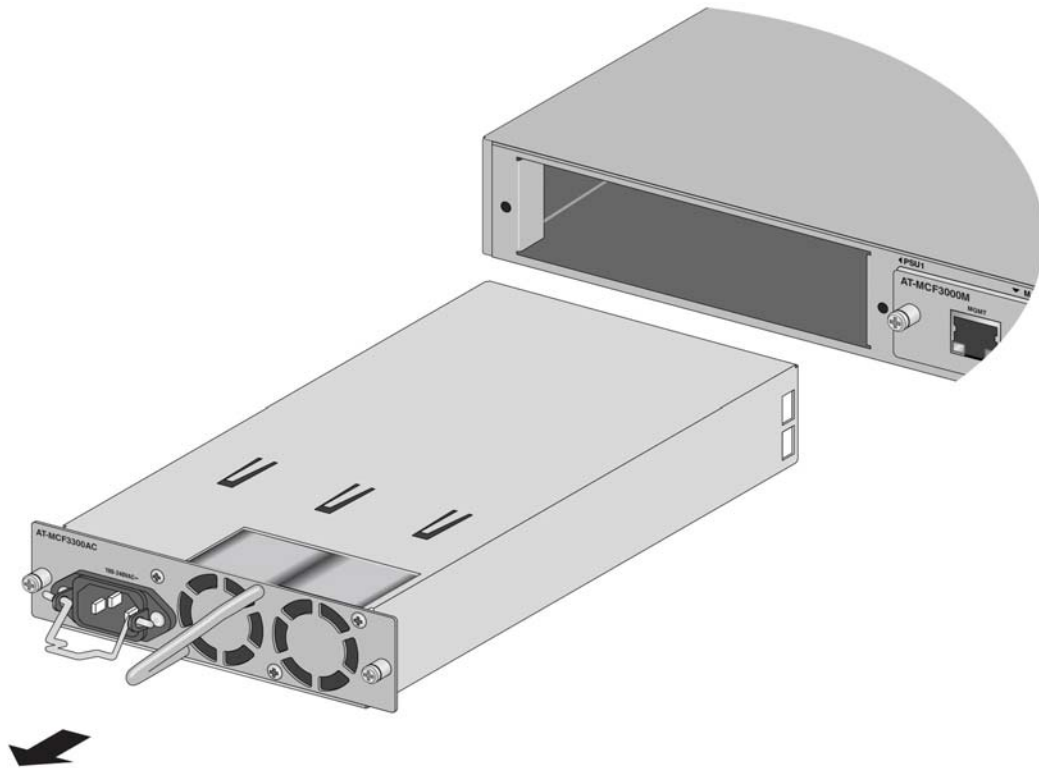

Figure 71. Sliding the MCF3300AC Power Supply from the Chassis
6. Slide the power supply out from the chassis. Refer to Figure 71.